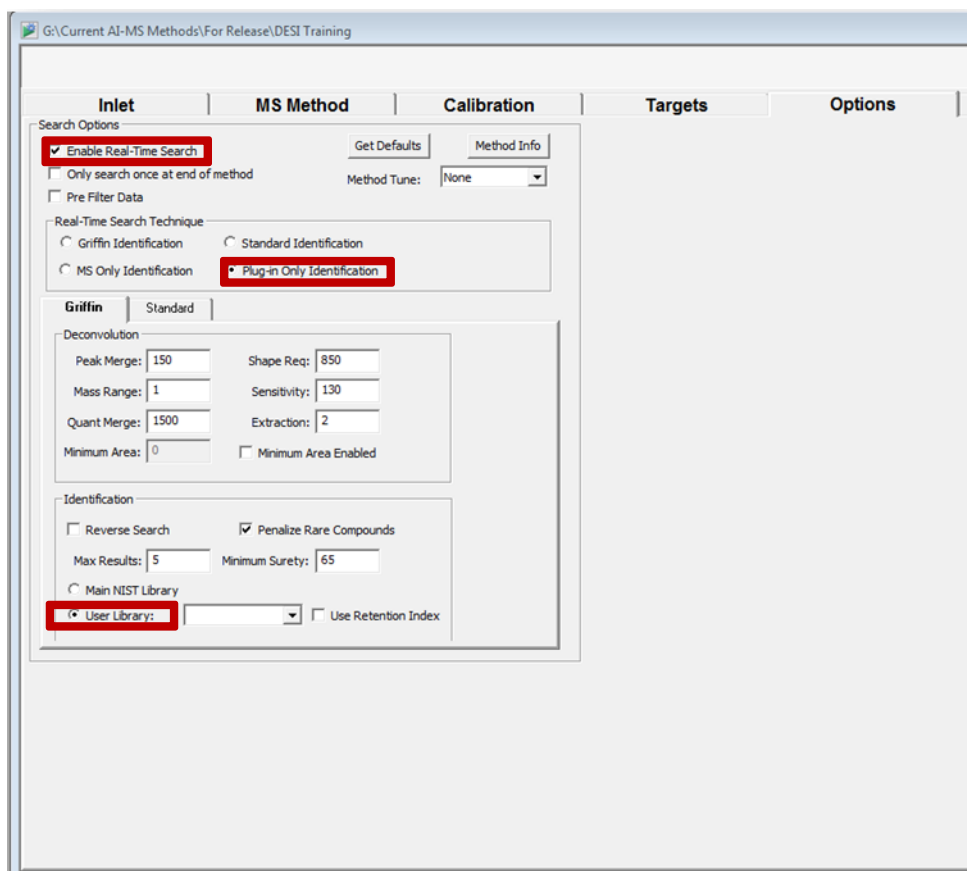

Figure 4.27 – Options tab
8. After entering the desired rules, select the “Options” tab (Figure 4.27).